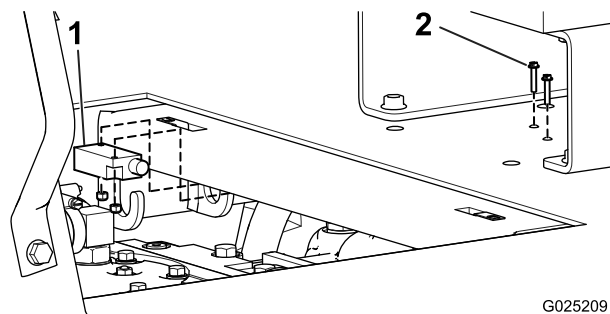

Figure 2
3. Install the tilt sensor under the floor under the seat using 2 bolts and locknuts (Figure 2).